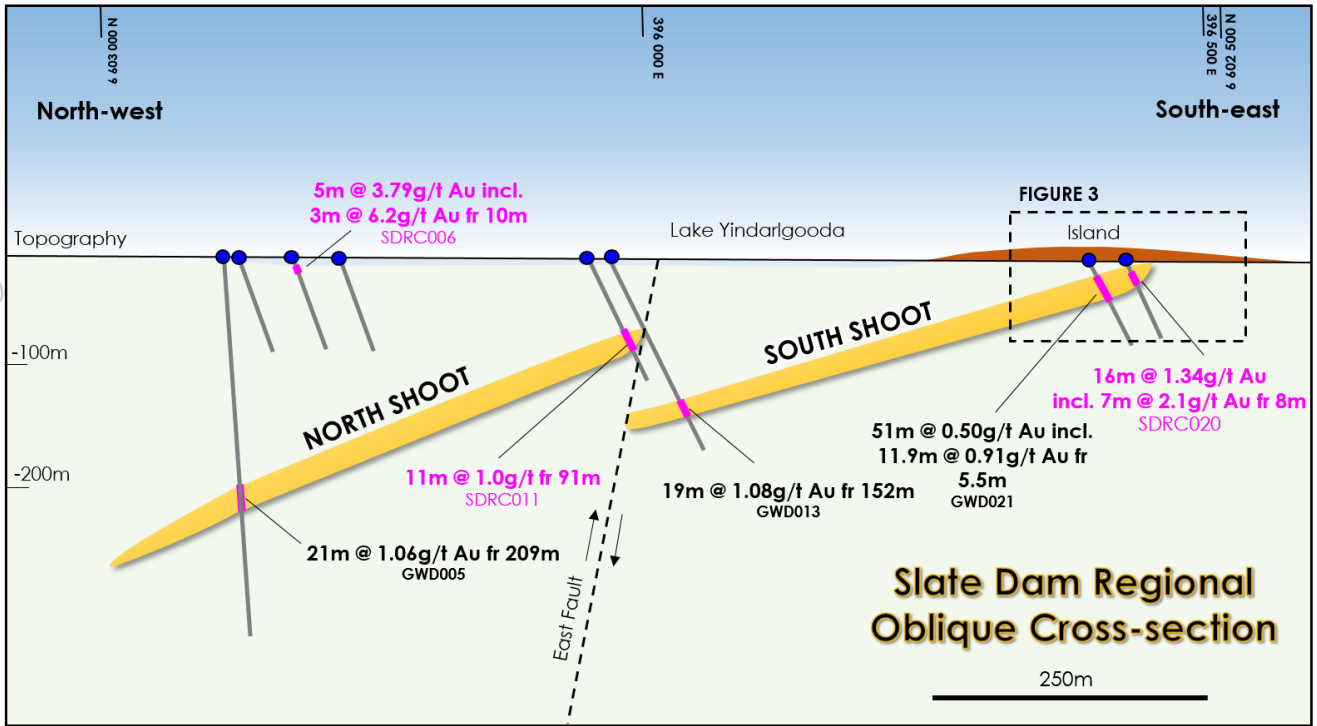

Figure 2. Slate Dam Interpreted oblique cross-section with identified major gold shoots
- Highly significant interpreted tabular 20 metre thick zones of gold mineralisation dipping at 30 degrees (which extend from surface to a depth of approximately 200 metres, and which remain open at depth. These zones assay at >1g/t gold and are currently traceable for 500 metres either side of the East Fault (See Figure 2).